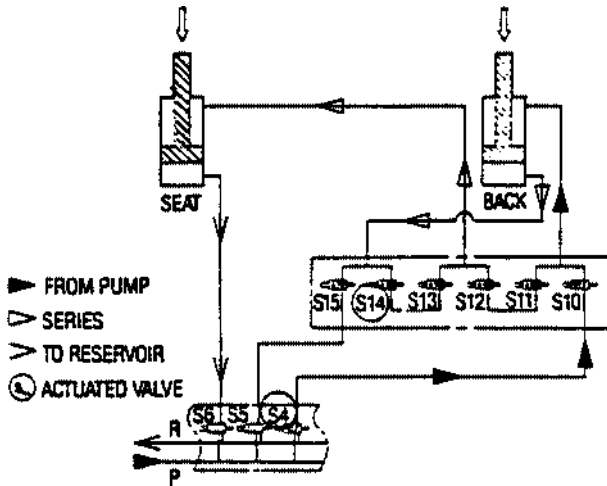

Figure 6-18. Flex Schematic
• Flex/Reflex (Figures 6-18 and 6-19)